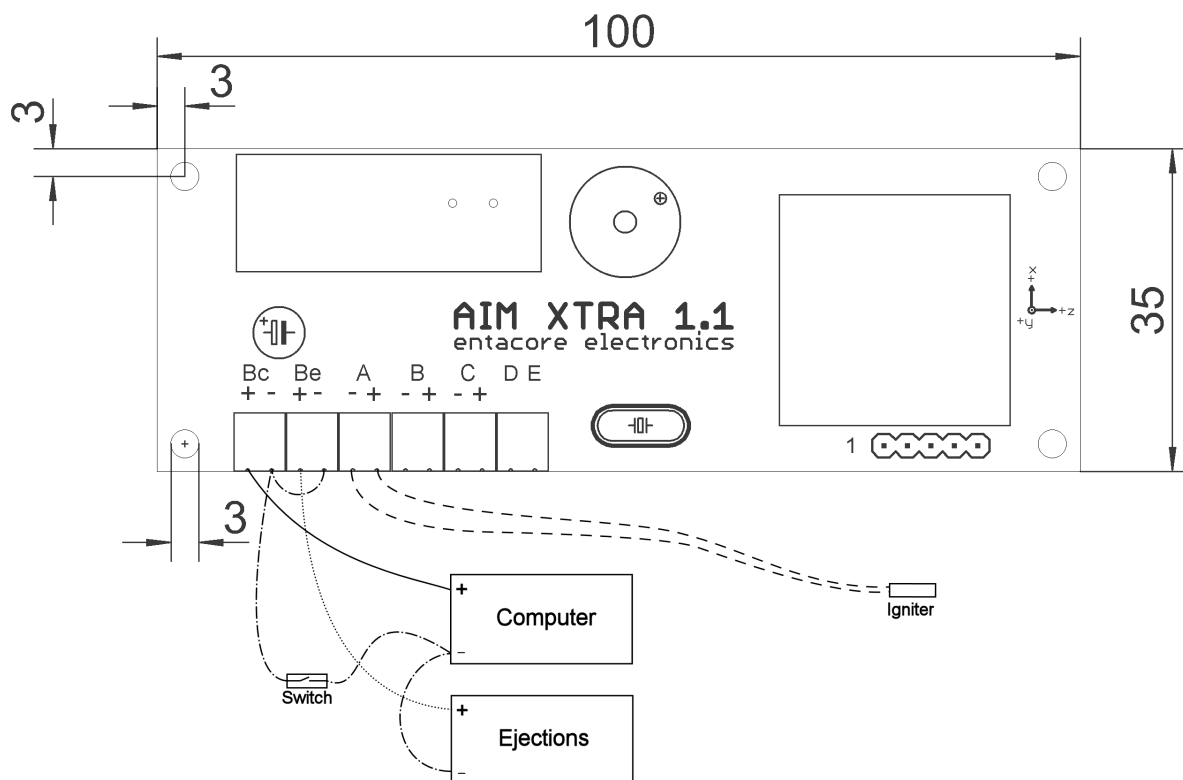

Figure 2.0.1: Standard configuration. For clarity, only one igniter is shown.
Figure 2.0.1 shows the standard setup for the AIM XTRA device. The AIM XTRA features a dual power system, allowing you to have separate batteries for the flight computer and the ejections. This can be bypassed by simply connecting the two positive terminals together with a short wire. A single battery is not recommended unless you are not using ejections with the AIM XTRA, or you are using a battery with a high current discharge capability. The left two terminal blocks are for the computer (C) and ejection (E) batteries respectfully.
The 3 terminal blocks on the right of the two power terminals are for igniters. Wire your igniters as shown in figure 2.0.1. Please ensure that your igniters do not draw more than 4 amps, and that they do not short out after being fired. If these precautions are not followed, the transistor switches might be damaged.